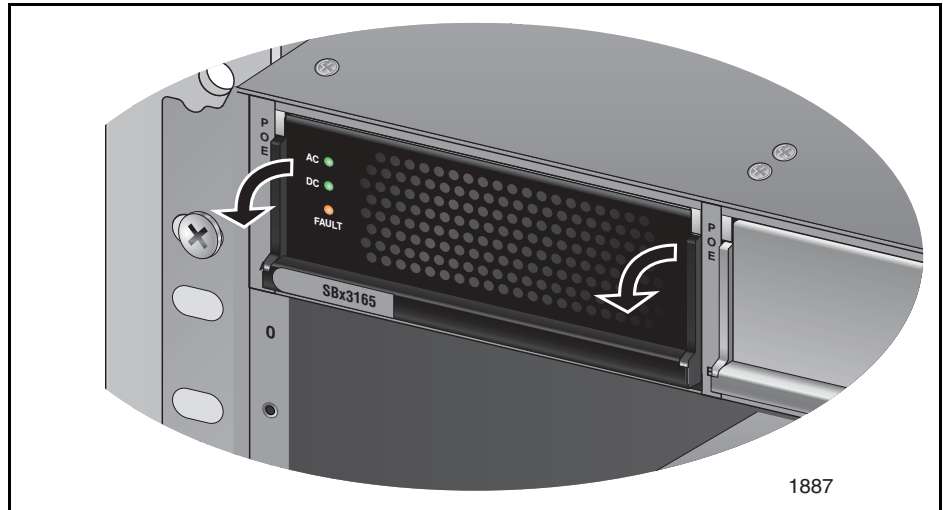

Figure 39. Locking the Handle on the AT-SBx3165 PoE Power Supply
7. Move the locking handle of the power supply to the locked or down position as displayed in Figure 39.